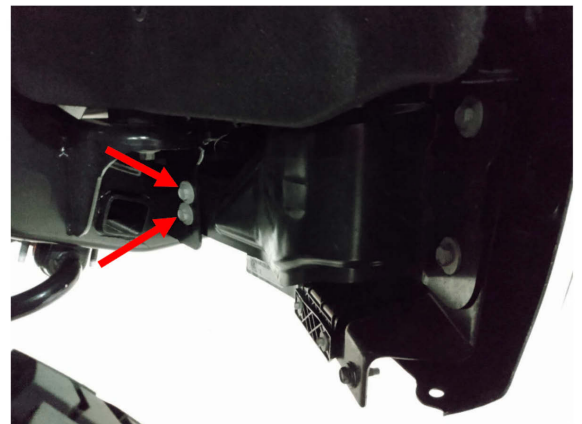

Figure 7.
7. Using a 15mm socket wrench, remove the two (2) bolts per side that attach the bumper reinforcement bracket to the frame. Figure 7.